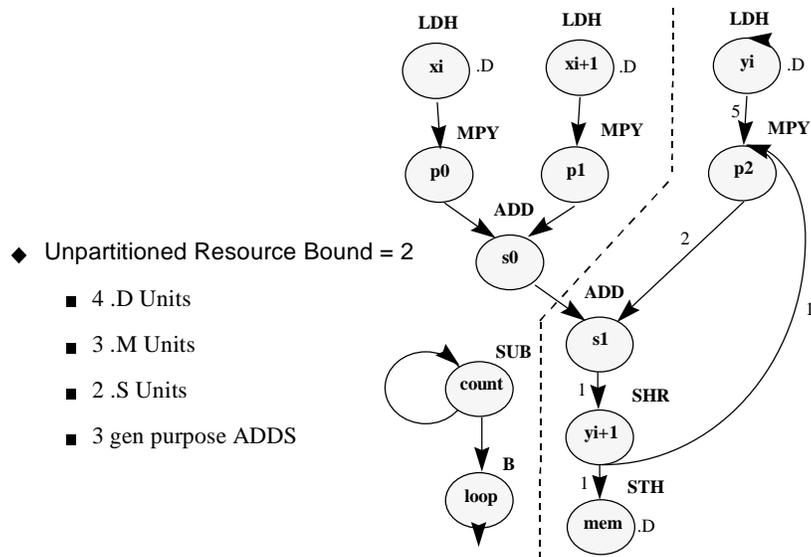

Figure 1. Splitting a Dependency Graph
1. Minimize the number of cross paths. This usually involves looking at the dependency graph of the loop and splitting it such that there are the fewest number of paths crossing to the opposite side. Figure 1 shows a split where only one cross path is required. Keep in mind that dependencies due to conditional registers do not require a cross path (i.e. an instruction on the A side which is conditional on a B register does not use the cross path).
3. Force even numbers of certain functional units on each side. Figure 1 shows that even though there are 4 instructions that require a .D unit, they can be split on opposite sides to allow for an iteration interval of 2. The same is true of the three multiplies, rather than putting all 3 on the same side, one is put on the opposite side.